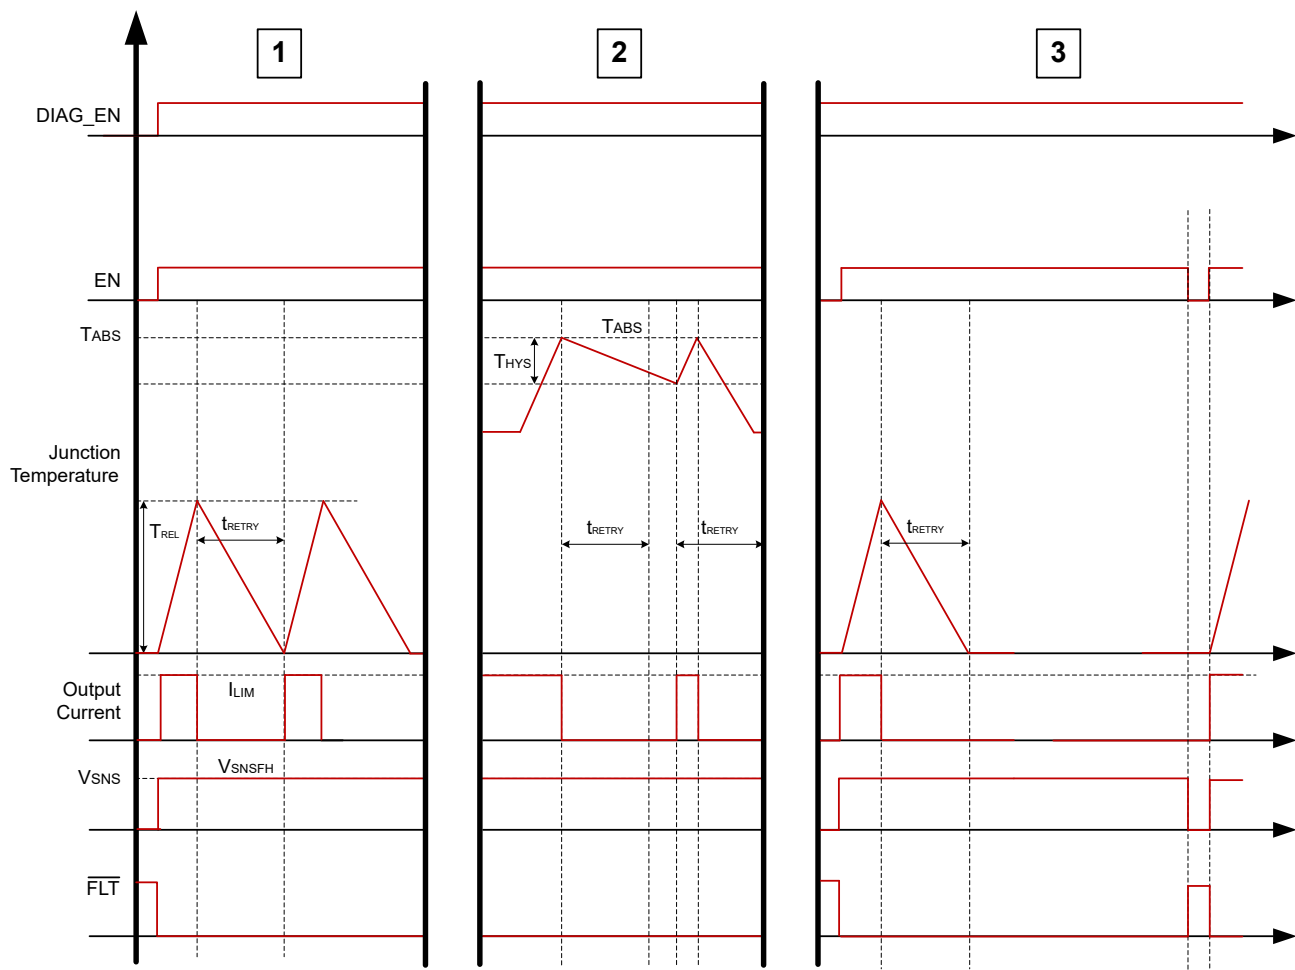

Figure 7-16. Thermal Behavior
The thermal protection behavior can be split up into three categories of events that can occur. Figure 7-16 shows each of these categories.
1. **Relative thermal shutdown:** The device is enabled into an overcurrent event. The output current rises up to the I_{LIM} level and the $\overline{FLT}$ goes low. With this large amount of current going through the junction temperature of the FET increases rapidly with respect to the controller temperature. When the power FET temperature rises T_{REL} amount above the controller junction temperature $\Delta T = T_{FET} - T_{CON} > T_{REL}$, the device shuts down. For auto-retry version, after t_{RETRY} , the part tries to restart. The latch version requires EN to be toggled to re-enable the channel. The $\overline{FLT}$ pin is asserted until the fault condition is cleared. The first plot in Figure 7-16 shows the relative thermal shutdown behavior for the auto-retry version.
2. **Absolute thermal shutdown:** the device is still enabled in an overcurrent event. However, in this case the junction temperature rises up and hits an absolute reference temperature, T_{ABS} , and then shuts down. For auto-retry version, the device does not recover until both $T_J < T_{ABS} - T_{hys}$ and the t_{RETRY} timer has expired. For latch version, toggling EN is required to re-enable the channel. The second plot in Figure 7-16 shows the absolute thermal shutdown behavior for the auto-retry version.
3. **Latch behavior:** the device is enabled into an overcurrent event. The DIAG_EN pin is high so that diagnostics can be monitored on SNS and FLT. For the latched version of the device, if the part shuts down due to a thermal fault, either relative thermal shutdown or absolute thermal shutdown, the device does not enable the channel until the EN pin is toggled. The third plot in Figure 7-16 shows the relative thermal shutdown behavior for the variants with LATCH pin when LATCH pin is HIGH.